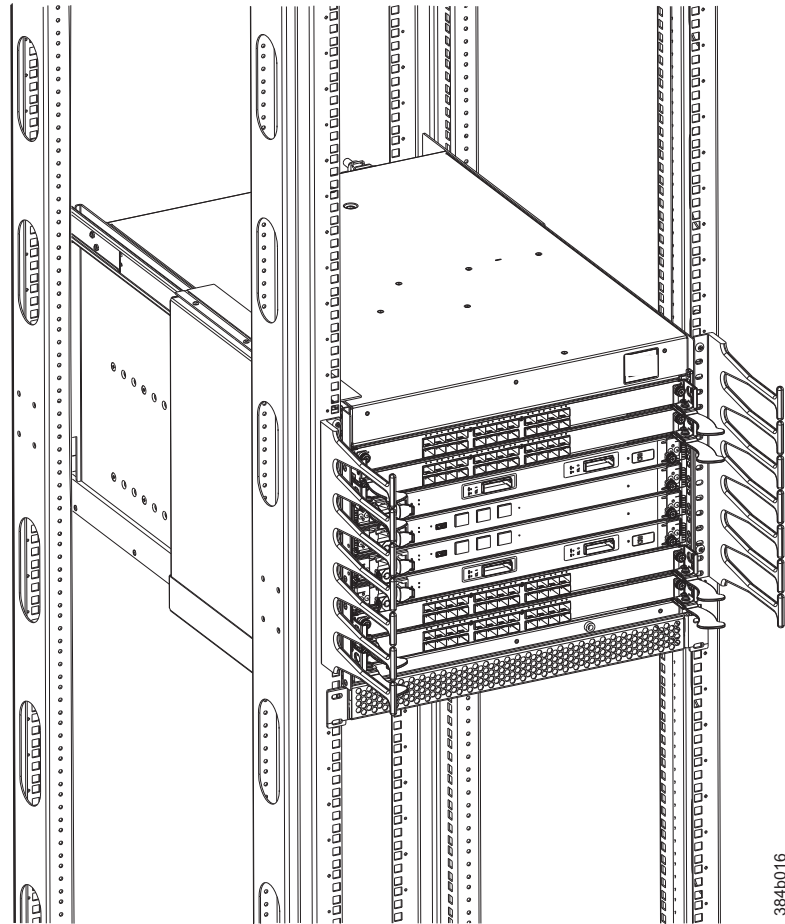

Figure 15. Attaching the vertical cable management finger assemblies to the cabinet rails
14. Attach the two cable management finger assemblies to the cabinet vertical rails, using two screws each. The two assemblies are identical and can be installed on either side. The screws will extend through the chassis flange used to attach the chassis to the cabinet rails, and into the clip nuts you have installed. Select the holes on the cable management assemblies that match two of the holes on the chassis flange. You will be able to position the cable management finger assemblies either towards the top of the chassis or towards the bottom of the chassis, depending on your requirements for routing cables. The third screw for each side is used to secure the chassis to the rails, directly through the chassis flange into the clip nuts. These screws do not attach the cable management assemblies to the chassis or rack. Figure 15 on page 31 shows the cable management fingers positioned towards the top of the chassis.